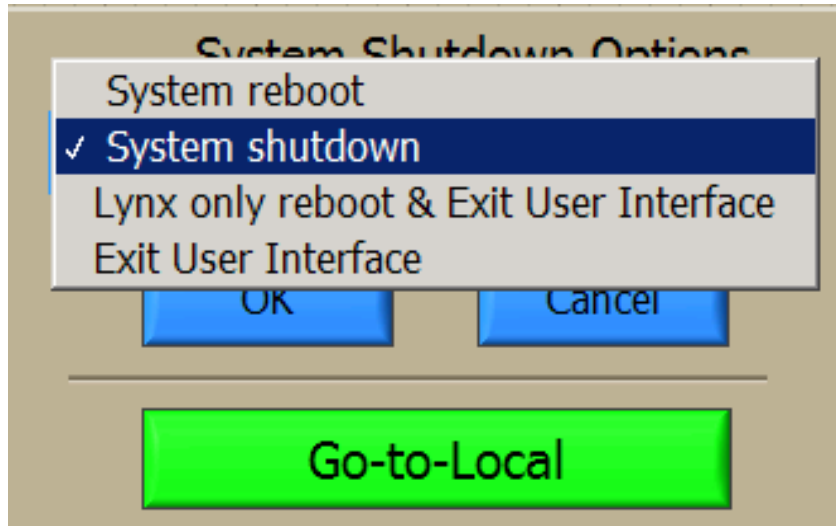

Figure 4-9 Shutdown Options
- Pressing the  ring control will give the user a choice of actions. See Figure 4-9.